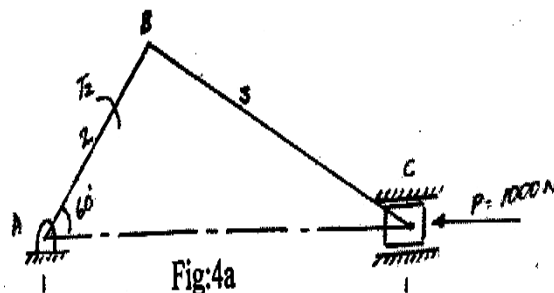

Fig:4a
- 4 a. A Slider crank mechanism is shown in Fig. 4a the applied to the piston is 1000 N when the crank is at 60° from IDC. Calculate the driving torque T_2 AB = 100mm, BC = 300 mm. 14